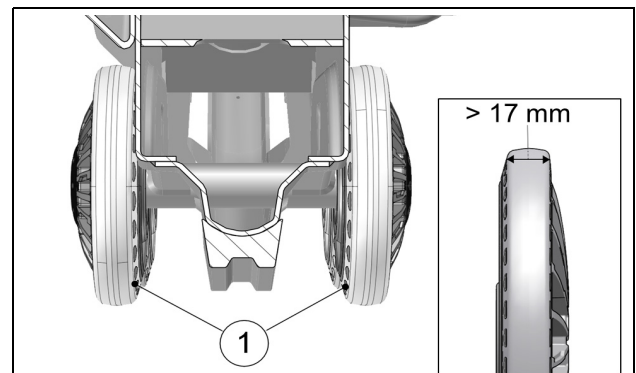
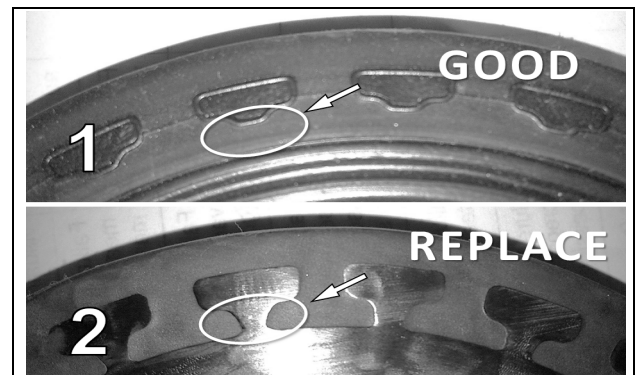

Figure 42
Figure 43
Verify wear on interior guidance strip (1) of 134-mm wheels. If internal plastic structure is visible (Fig. 43-2), rubber coating is worn away and wheel must be replaced. Replace wheels also if rolling band narrows to a width of 17 mm or less (22 mm when new). An excessively worn wheel will not offer enough support for track guidance. Figure 42 and Figure 43.